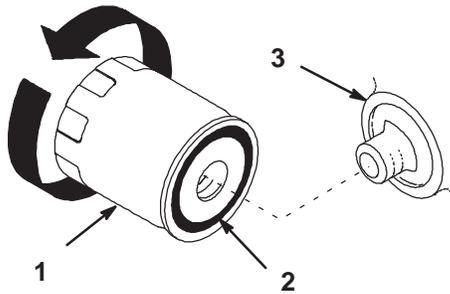

Figure 40
2. Remove the old filter and wipe the filter adapter (Fig. 40) gasket surface.
4. Apply a thin coat of new oil to the rubber gasket on the replacement filter (Fig. 40).
5. Install the replacement oil filter to the filter adapter. Turn the oil filter clockwise until the rubber gasket contacts the filter adapter, then tighten the filter an additional 1/2 turn (Fig. 40).